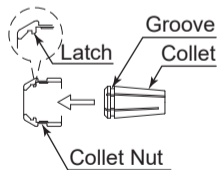

Fig. 18
- ③ To install the collet, hold the collet at a slight angle, and insert it into the collet nut (Fig. 18).